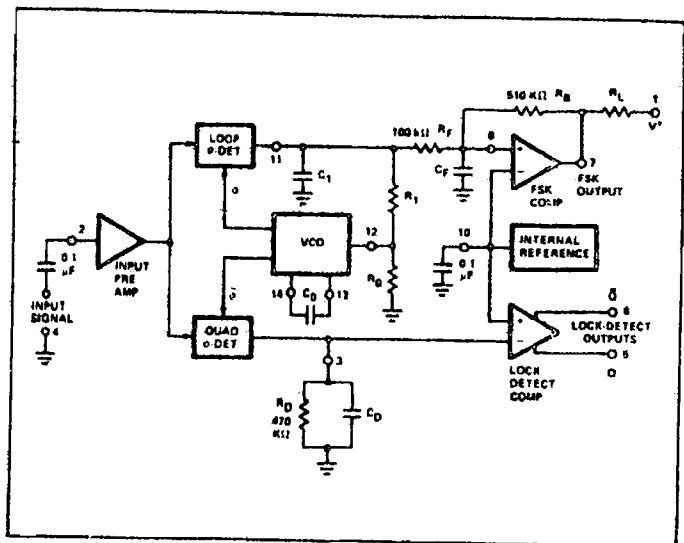
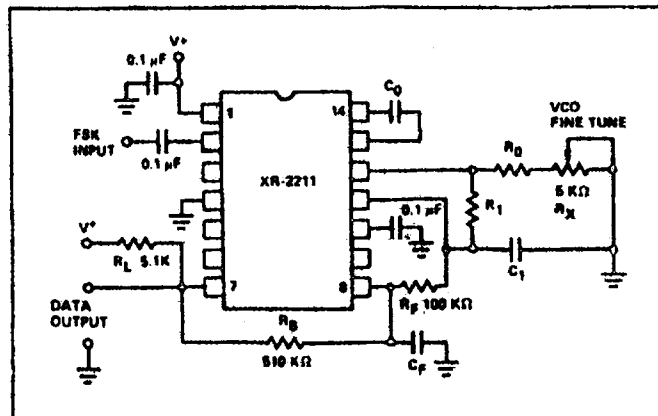

Figure 2: Generalized Circuit Connection for FSK and Tone Detection.
Figure 6: Circuit Connection for FSK Decoding.
**Quadrature Phase Detector Output (Pin 3):** This is the impedance output of quadrature phase detector and is internally connected to the input of lock detect voltage comparator. In tone detection applications, Pin 3 is connected to ground through a parallel combination of  $R_D$  and  $C_D$  (see Figure 2) to eliminate the chatter at lock detect outputs. If the tone detect section is not used, Pin 3 can be left open circuited.
**FSK Comparator Input (Pin 8):** This is the high impedance input to the FSK voltage comparator. Normally, an FSK post-detection or data filter is connected between this terminal and the PLL phase detector output (Pin 11). This data filter is formed by  $R_F$  and  $C_F$  (Figure 2). The threshold voltage of the comparator is set by the internal reference voltage,  $V_R$ , available at Pin 10.
**Loop Phase Detector Output (Pin 11):** This terminal provides a high impedance output for the loop phase detector. The PLL loop filter is formed by  $R_1$  and  $C_1$  connected to Pin 11 (see Figure 2). With no input signal, or with no phase error within the PLL, the dc level at Pin 11 is very nearly equal to  $V_R$ . The peak voltage swing available at the phase detector output is equal to  $\pm V_R$ .
**VCO Frequency Adjustment:** VCO can be fine-tuned by connecting a potentiometer,  $R_X$ , in series with  $R_0$  at Pin 12 (see Figure 6).
Figure 6 shows the basic circuit connection for FSK decoding. With reference to Figures 2 and 6, the functions of external components are defined as follows:  $R_0$  and  $C_0$  set the PLL center frequency.  $R_1$  sets the system band width, and  $C_1$  sets the loop filter time constant and the loop damping factor.  $C_F$  and  $R_F$  form a one-pole post-detection filter for the FSK data output. The resistor  $R_B$  ( $= 510 K\Omega$ ) from Pin 7 to Pin 8 introduces positive feedback across FSK comparator to facilitate rapid transition between output logic states.
Table 1: Recommended Component Values for Commonly Used FSK Bands. (See Circuit of Figure 6.)